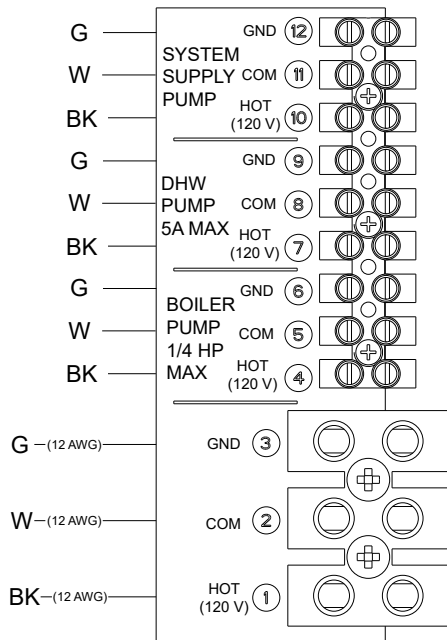

Figure 22. XPak FT Cascade Master Pumps
1. On the boiler designated as the Master, connect the system pump wiring to the terminal block at the rear of the unit. Connect to terminals 10, 11, and 12. See Figure 22. The output is rated for pilot duty only (2A maximum).
2. Connect the boiler pump wires to the terminal block at the rear of their unit. Connect to terminals 4, 5, and 6. See Figure 22.
2. For each follower boiler, connect the boiler pump wires to the terminal block at the rear of each unit. Connect to terminals 4, 5, and 6. See Figure 22.